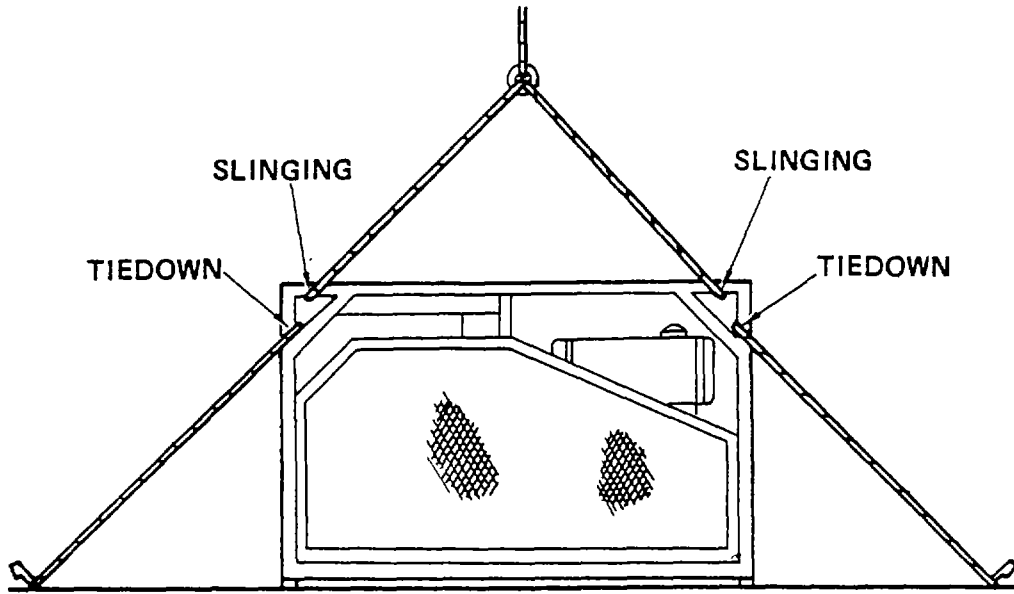
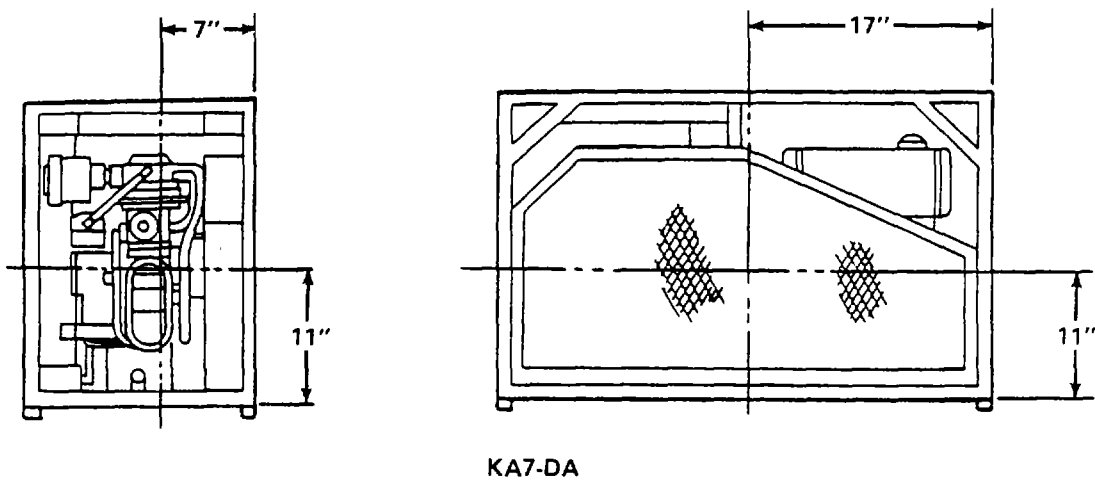

Figure 4-38. Compressor Unit Sling and Tie Down Arrangement.
Figure 4-39. Compressor Unit Center of Gravity.
- (1) Prepare the unit for storage in accordance with paragraph 4-47 and 4-48.
- (2) Box or crate the complete unit in accordance with local packaging procedures.
- b.* Uncrated Shipment. The compressor may be shipped by securing the unit directly to the load surface of a vehicle such as a truck. The units should be lifted and tied down in accordance with figure 4-38. The approximate center of gravity of the unit is shown in figure 4-39.